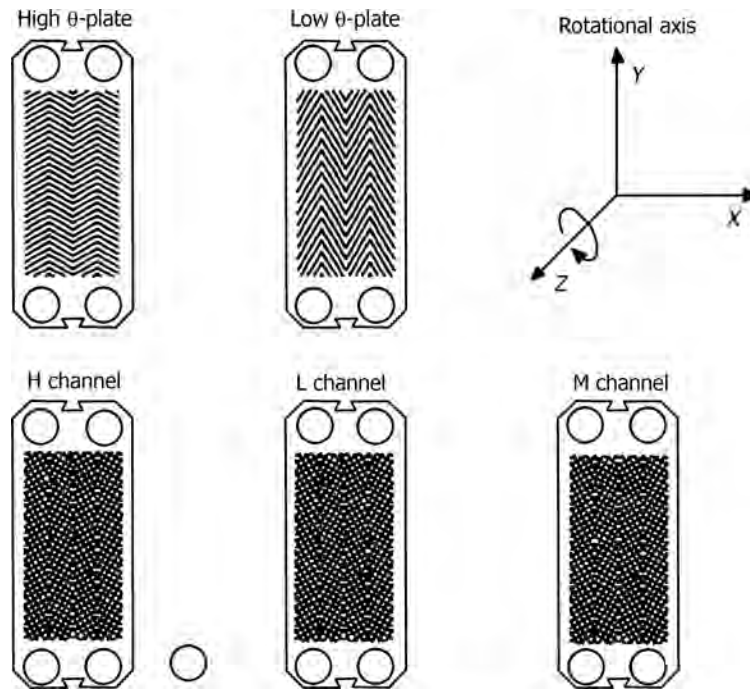

FIGURE 13.13 Conventional heat transfer plates and channel combinations.
- Conventional heat transfer plate designs are classified as chevron or herringbone type, with the corrugations forming a series of patterns. Each plate size is pressed with two different chevron angles, as shown in Figure 13.13, the low θ -plate and high θ -plate have acute and obtuse apex angles, respectively.
- The gasket groove on these conventional style plates is recessed 100% (Figure 13.13) so that there is always a front and back to each plate.